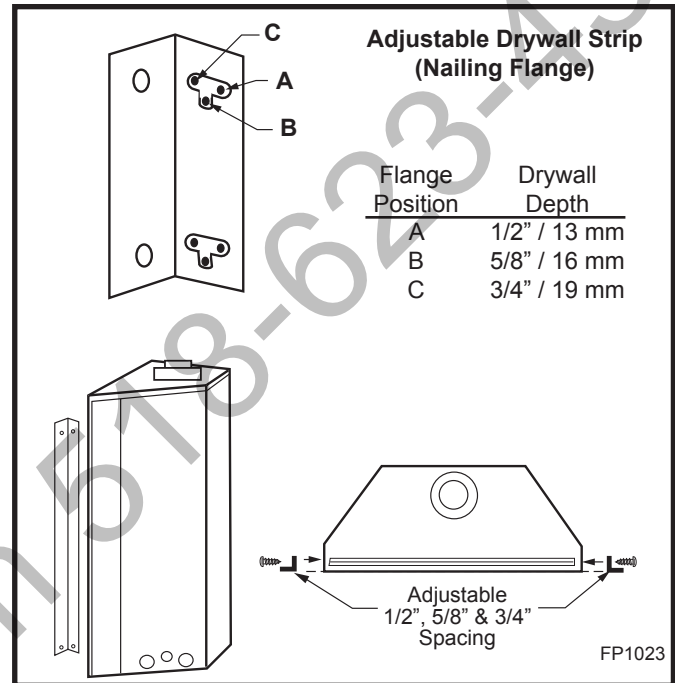

Fig. 5a Adjustable drywall strip (nailing flange) for DV580.
DV580 (Fig. 5a)
1. Nailing flanges are supplied with the fireplace (found on the fireplace hearth). To level the box and secure it firmly in place, remove the nailing flanges from the hearth and install at the sides of the fireplace as shown in Figure 5a.